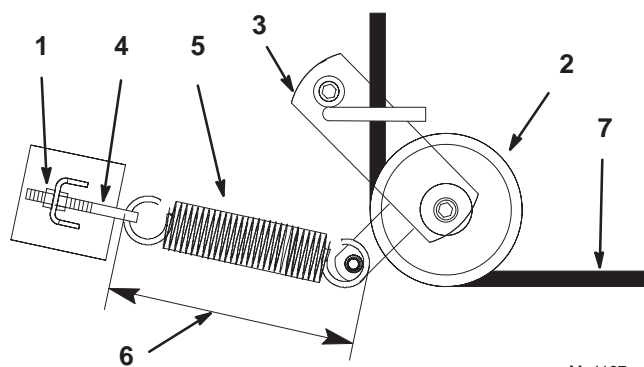

Figure 60
3. Loosen outer nut on spring eye bolt (Fig. 60).
5. Remove spring loaded idler pulley (Fig. 60).
6. Route new belt through idler arm (Fig. 60).
8. Retighten outer nut on spring eye bolt (Fig. 60).
Note: Check spring length. The spring should measure 9-3/8 in. \pm 1/8 in. (238 mm \pm 3 mm) when installed. Adjust if it does not (Fig. 60).